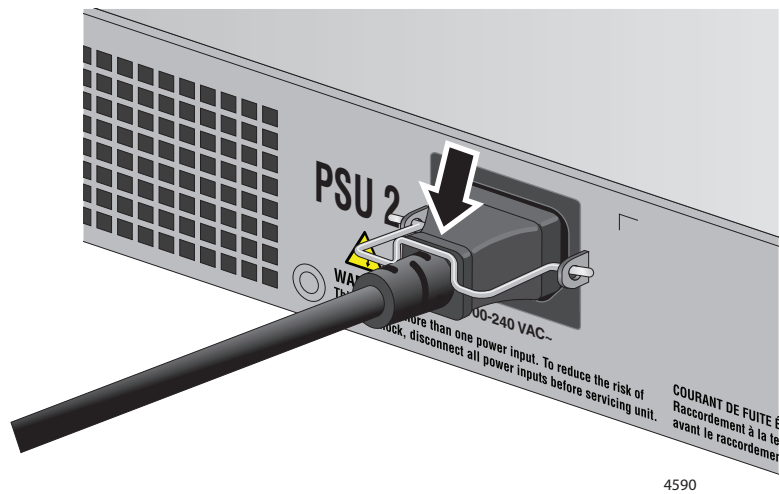

Figure 58. Plugging in the AC Power Cord to the Switch
3. Lower the power cord retaining clips to secure the cord to the switch. Refer to Figure 58.